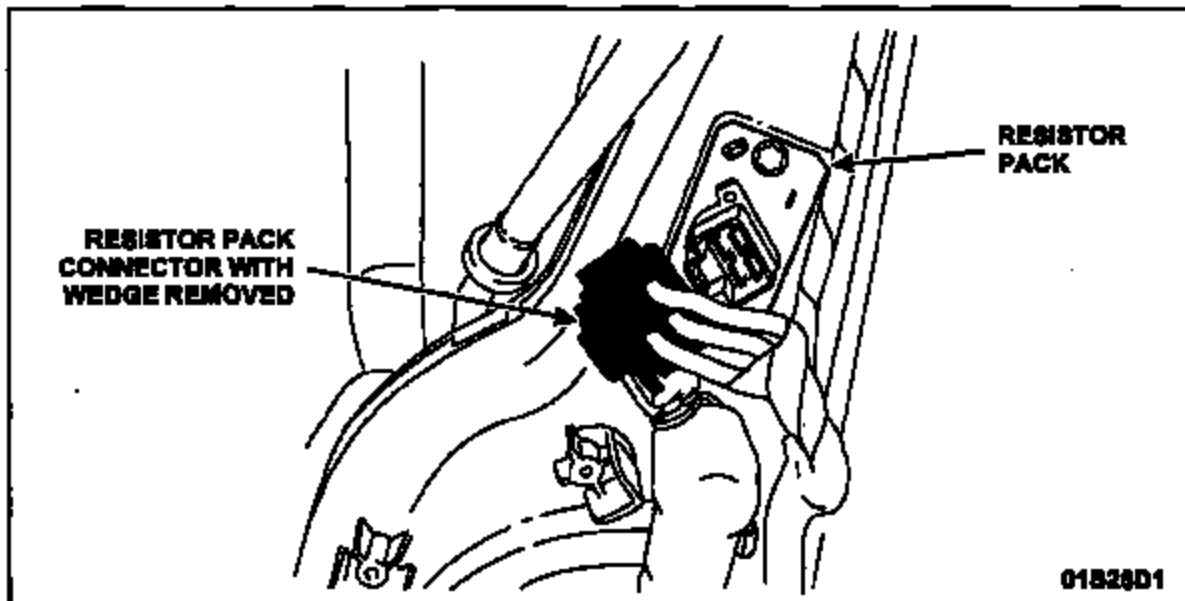

FIGURE 4
16. Disconnect the auxiliary blower motor resistor pack connector, and remove the locking wedge from the connector. See Figure 4.